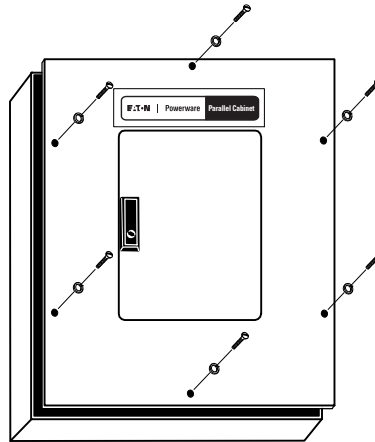

Figure 6. Parallel Tie Cabinet Front Cover
5. Remove the parallel tie cabinet front cover (see Figure 6).